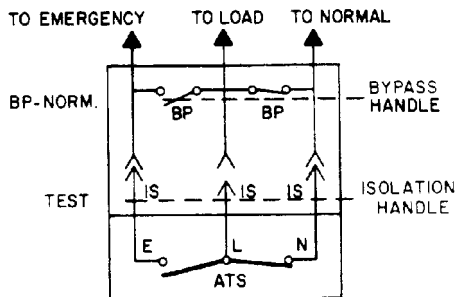

Figure 3-8. Test position.
2. Turn **Isolation Handle** clockwise to the *TEST* position. (see Figure 3-8):